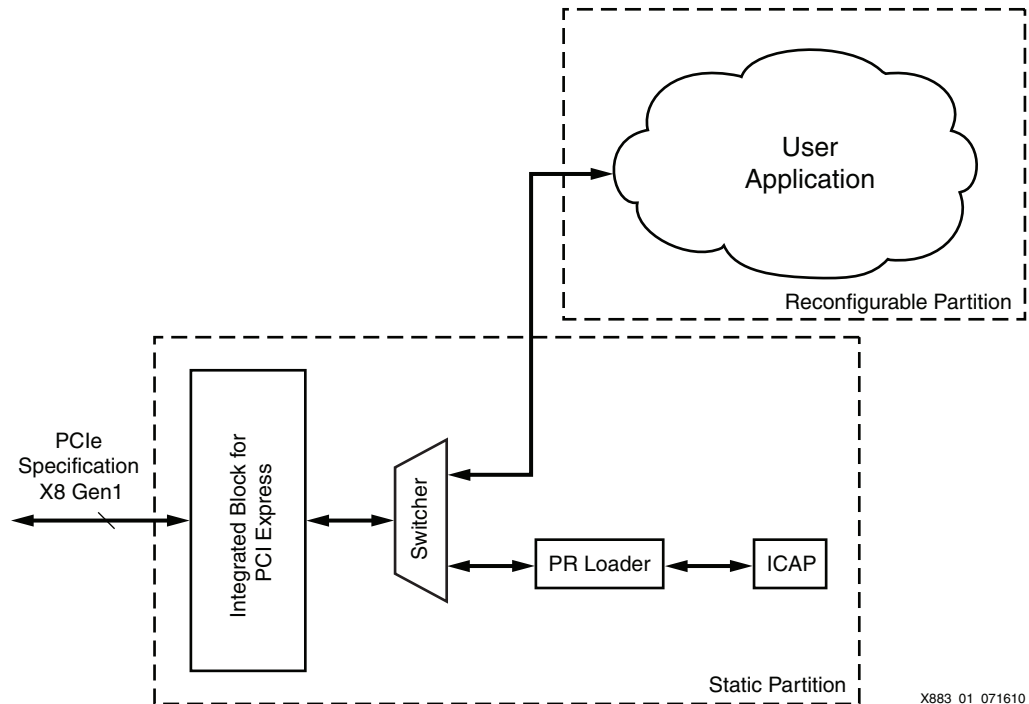

Figure 1: FPC Module Architecture
An FPC module consists of two partitions: the static partition and the reconfigurable partition. The static partition is configured during the initial first-stage configuration. It provides the channel and framework necessary for the host to reconfigure through the PCIe system link and internal configuration access port (ICAP) of the Virtex-6 FPGA. (Refer to the *Virtex-6 FPGA Configuration User Guide* [Ref 3] for more information about ICAP.) The static partition consists of an Integrated Block for PCI Express, a switcher, and a partial reconfiguration (PR) loader, as shown in Figure 1. The user application resides in the reconfigurable partition and is applied to the FPGA during second-stage configuration. The PlanAhead tool creates one unique bitstream for each partition.